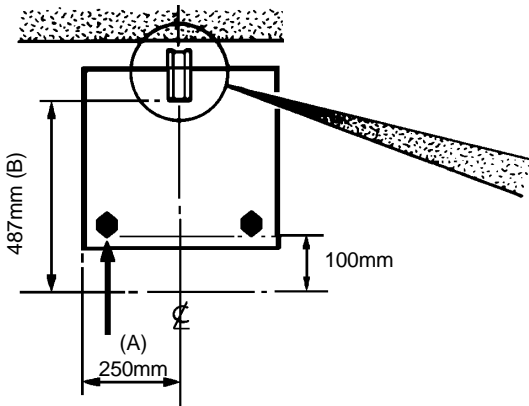

Fig.3a
2. Mark off 250mm from the left hand side of the appliance as shown in dimension 'A', Fig 3a. This is the centre line of the fixing bracket.
3. Draw a line 100mm from the front edge of the levelling feet (see Fig 3a) and remove appliance from its position. Mark off dimension 'B' (see Fig 3a) back from this line on the centre line of the bracket to locate the front edge of the lower bracket. Fix lower bracket (with two fixing holes) to the floor then measure the height from floor level to engagement edge on back of appliance, dimension 'C' of Fig. 3b.